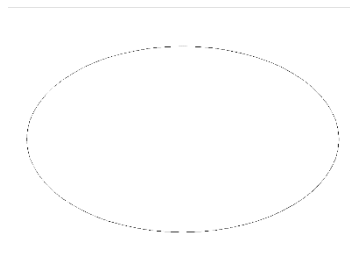
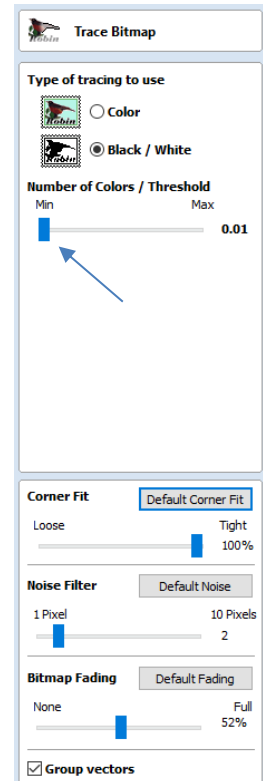

Fig. 15
Fig. 14
16. You will now create a vector around the unfinished areas. Check that Black / White is checked. Use the “Number of Color / Threshold” slid the blue slid-bar all the way to the left (Fig. 14) (everything will turn white) in the 2d View (Fig. 15).